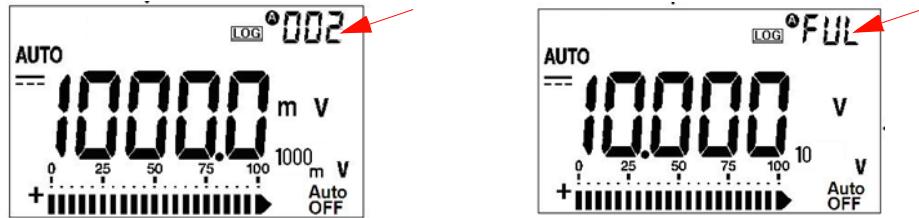

Figure 2-7 Interval logging display
- 2 The reading automatically logs into the memory in every interval as preset in Setup mode, see Figure 2-7.